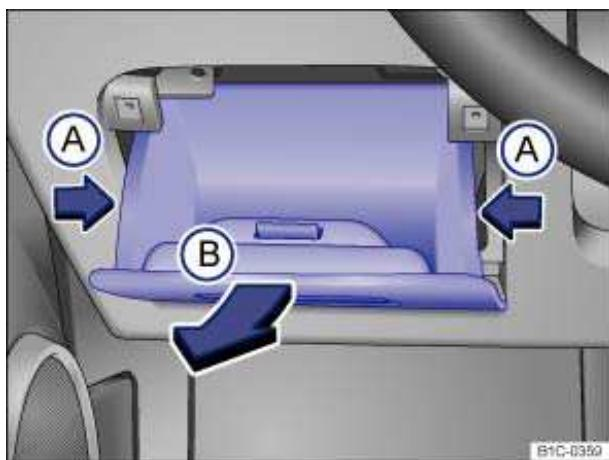

Fig. 147 On the driver side in the instrument panel: Storage compartment in front of the fuse box.
- Open the storage compartment ⇒ fig. 147...
- Press the sides of the storage compartment in slightly ((A) arrows) while pulling back firmly ((B) arrow).
- To **install**, guide the cover from the bottom into the instrument panel by pushing in the direction opposite to the arrows (A), then push forward until you can hear it latch into place.